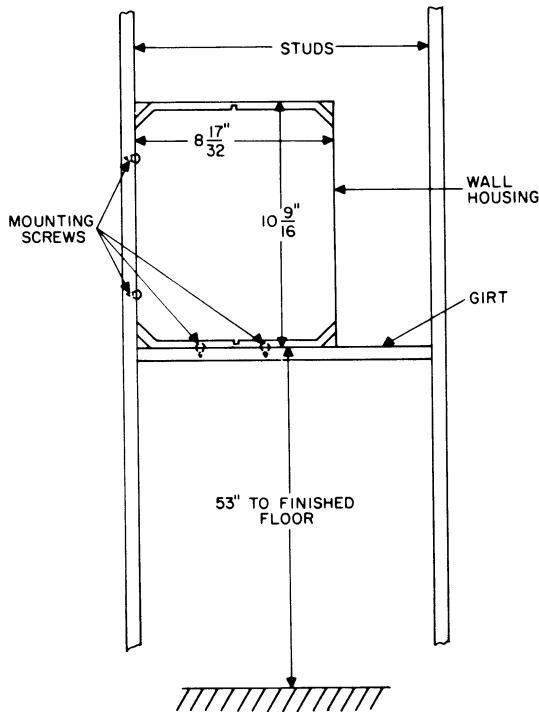
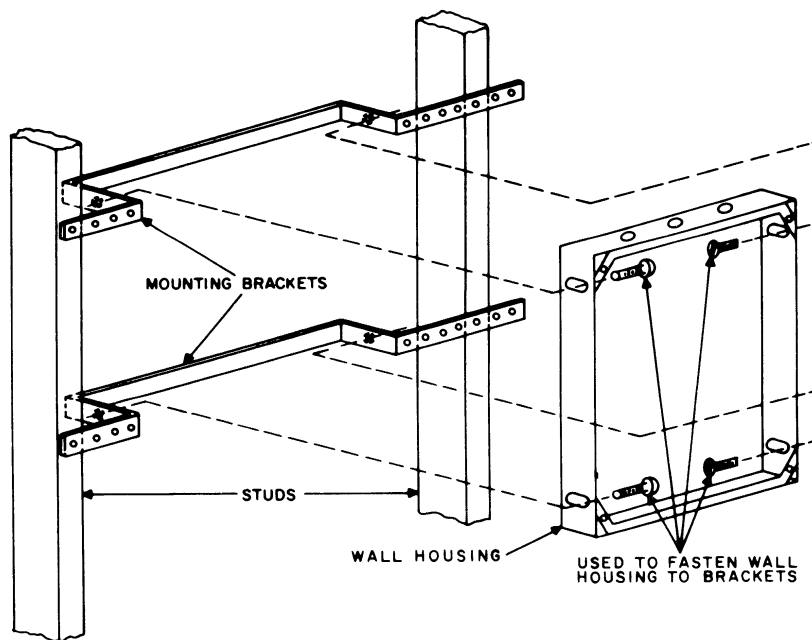

Figure 13. Wall Housing Mounted to Studding When Fully-Framed Opening is not Available.
Figure 14. Wall Housing Mounted With Two 550728 Brackets.
3.02 If the building construction or remodeling has been planned to provide for a telephone installation, an opening for the wall housing may be framed by the contractor. This will permit direct fastening to the frame members as mentioned in the preceding paragraph. A less satisfactory method is to use such direct fastening along one side and the bottom (Figure 13). In lieu of a framed opening, a 550728 mounting bracket formed of 5/8-inch steel strap may be nailed between two adjacent studs and bolted to the upper part of the housing through the slotted side openings, with a second bracket to support the lower part, as shown in Figure 14.